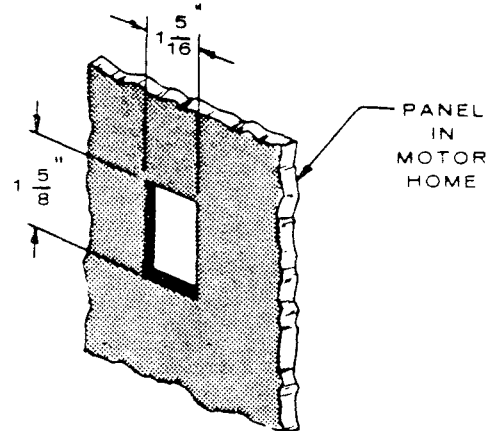

FIGURE 17. MOTOR HOME CUTOUT
1. Select switch location. Using Figure 17 as a guide, drill screw holes and cut holes in RV panel.